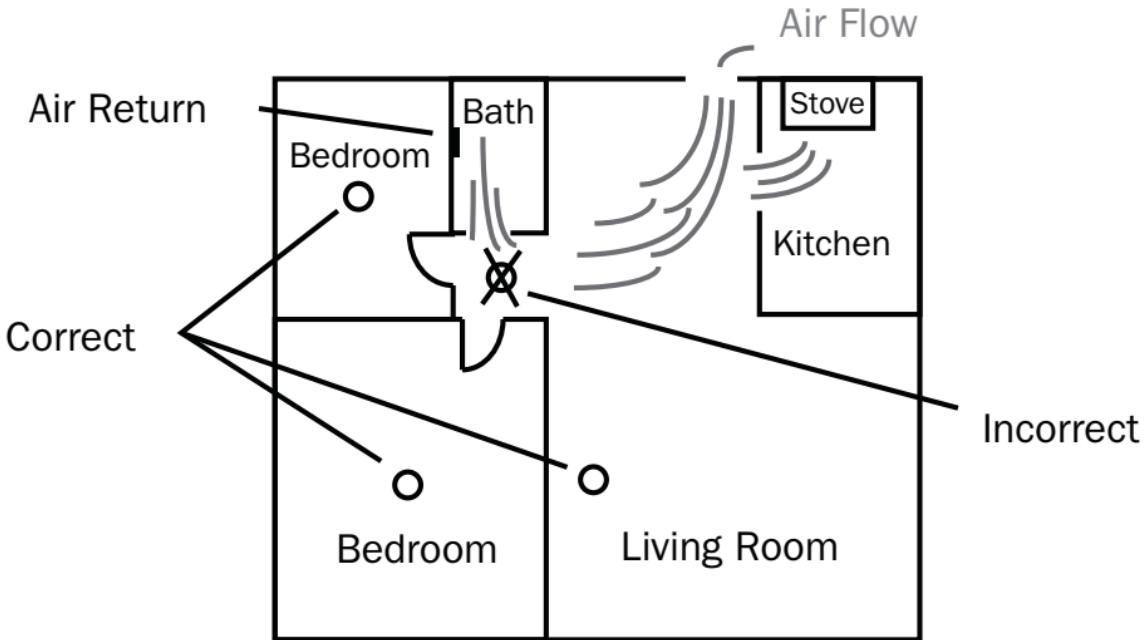

Figure 3: recommended smoke detector locations to avoid air streams with combustion particles.
- In air streams passing by kitchens. Figure 3 shows how a detector can be exposed to combustion particles in normal air movement paths, and how to correct this situation.